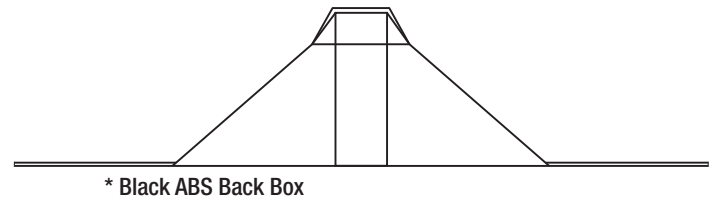
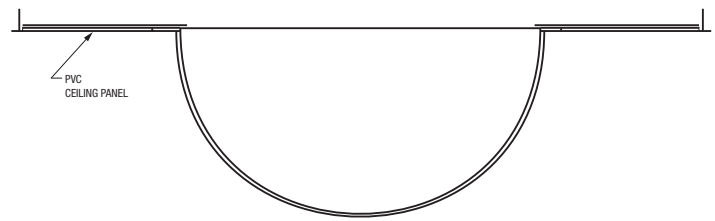

Figure 1
Figure 2
2. Place OH081 Dome down into cutout of the supplied ceiling panel. *As seen in Figure 1.
4. Attach camera to mount using a ¼-20 thumb screw. Using (2) ¼-20 thumb screws attach camera with mount using the bottom holes on yoke and tighten thumb screws.
7. Install camera and housing using adjacent open area by placing back box onto top of panel and dome. Pan by manually rotating camera housing to desired position. Refer to Figure 2.